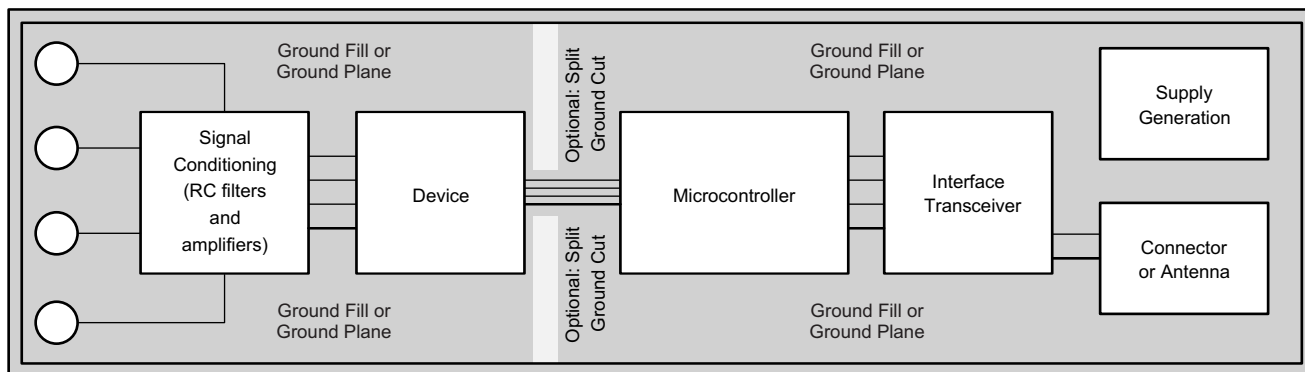

Figure 130. System Component Placement
TI recommends employing best design practices when laying out a printed-circuit board (PCB) for both analog and digital components. This recommendation generally means that the layout separates analog components [such as ADCs, amplifiers, references, digital-to-analog converters (DACs), and analog multiplexers] from digital components [such as microcontrollers, complex programmable logic devices (CPLDs), field-programmable gate arrays (FPGAs), radio-frequency (RF) transceivers, universal serial bus (USB) transceivers, and switching regulators]. An example of good component placement is shown in Figure 130. Although Figure 130 provides a good example of component placement, the best placement for each application is unique to the geometries, components, and PCB fabrication capabilities employed. That is, there is no single layout that is perfect for every design, and careful consideration must always be used when designing with any analog component.